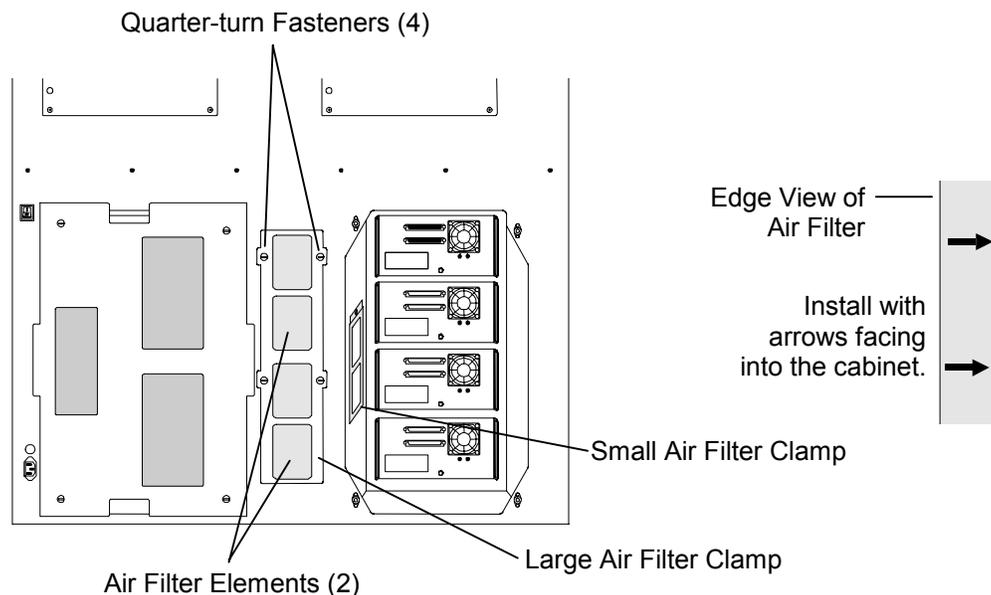

Figure 12-11 TLS-58xxx/68xxx/88xxx (Dual Bay) Rear View with Edge View of Filter
1. Open the cabinet door and visually inspect the air filter element(s) at the lower right corner of the front panel (all models). For models 64xx and 84xx, also inspect the air filter elements in the lower rear panel, next to the tape drive assemblies. The access cover will need to be removed to inspect these filter elements in the rear panel of the TLS. Use a flat blade screwdriver to loosen all four of the quarter-turn fasteners and carefully remove the access cover (See Figure 5-15). When filter inspection is complete, align the covers four fasteners with the corresponding receptacles on the rear panel of the TLS, then using a flat blade screwdriver tighten the fasteners to secure the cover. For models 58xxx, 68xxx and 88xxx visually inspect the two air filter elements on the rear panel (Figure 12-11).
4. Use a flat blade screwdriver to loosen all four of the quarter-turn fasteners and carefully remove the right side access cover on the rear of the TLS (as viewed from the rear). See Figure 12-11.